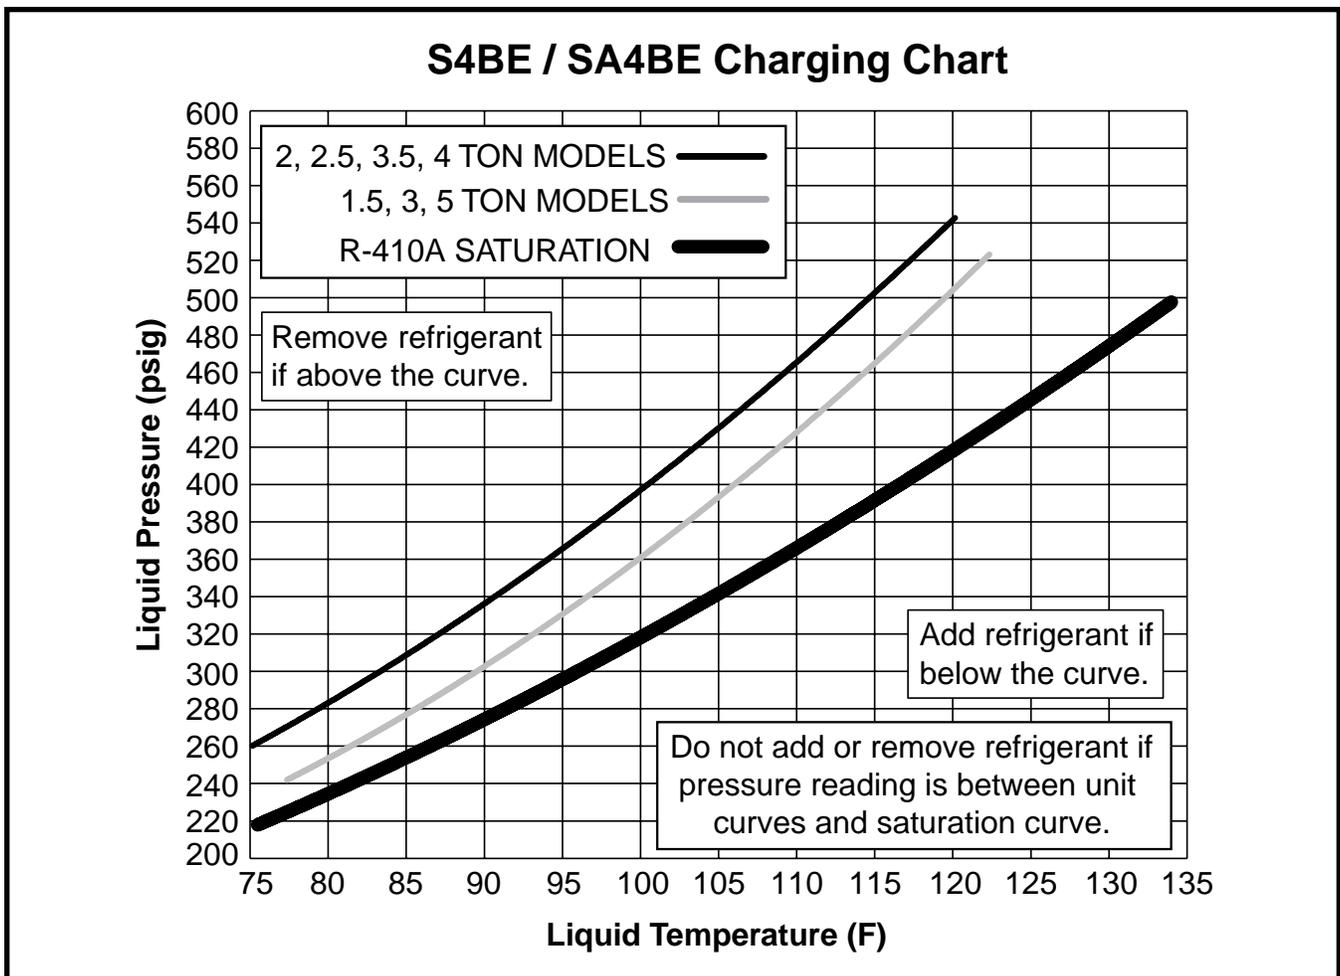

Figure 3. Charging Chart for 2 - 5 Ton Units
- Refrigerant charging charts are applicable only to matched assemblies of NORDYNE equipment and listed airflows for the indoor coil. Refer to Figure 3, \(page 8\) for correct system charging.
3. Determine the required liquid refrigerant pressure from Figure 3, \(page 8\).
- Before using this chart, make sure the unit is in a stable operating mode. As shown in Figure 3, \(page 8\), the ideal system sub-cooling can vary over the range of operation. Reference the charts to determine the ideal amount of sub-cooling for a given liquid pressure. Units charged to other values will not perform at the rated unit efficiency (EER) or rated Coefficient of Performance (COP) in heating mode.